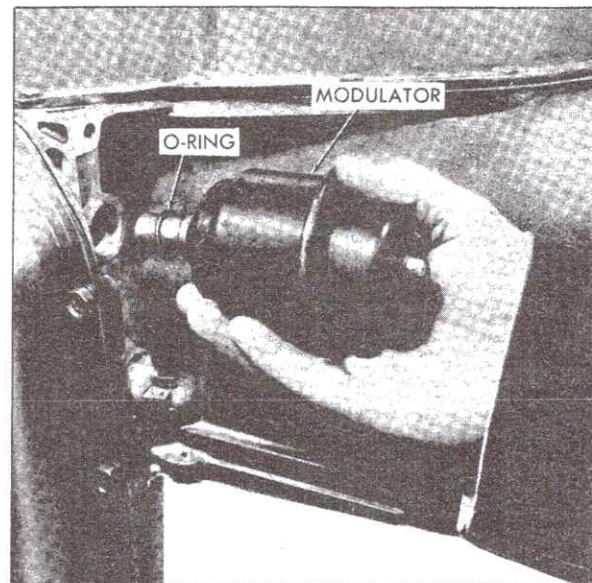

Fig. 7-137 Removing Vacuum Modulator and O-Ring
2. Remove modulator assembly and O-ring from transmission case. Remove and discard O-ring from vacuum modulator, Fig. 7-137.